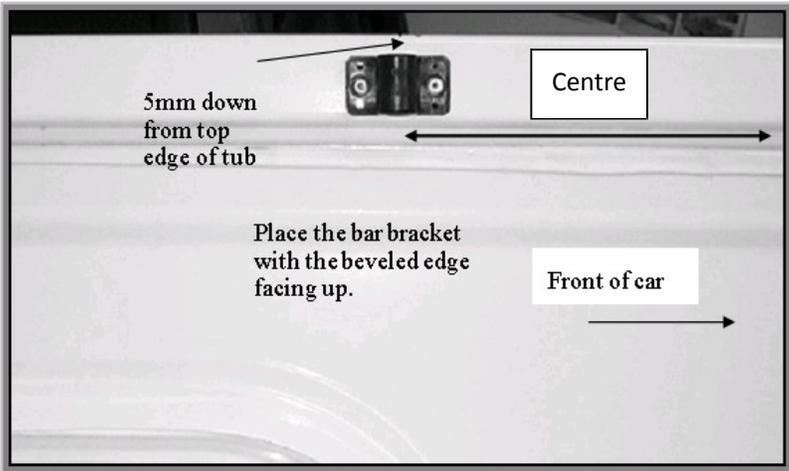

Figure 2: Placement of bar bracket
7. With a pencil mark the inside edge on each side of the tub at the midpoint of the tub . Centrally locate the bar bracket over this position and align the top of the bar bracket 5mm down from the top edge of the tub and drill and rivet bracket into place. **See Figure 2.** Repeat for other side of tub.